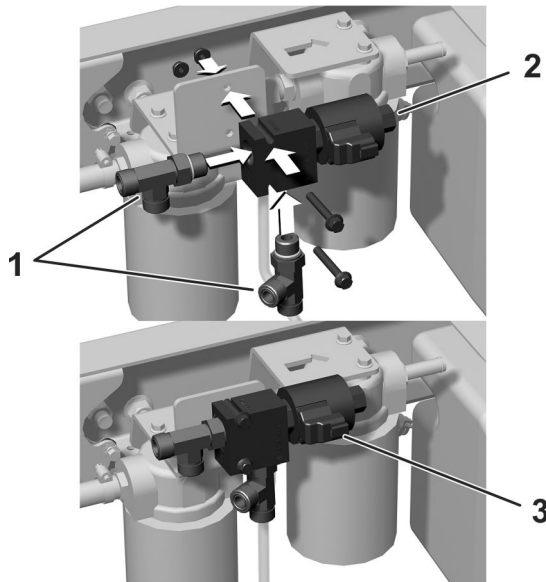

Figure 12
1. Loosely install the 2 T-fittings onto the valve (Figure 12).
2. Mount the valve to the frame bracket with 2 flange-head screws (1/4 x 1-7/8 inches) as shown in Figure 12.
3. Install the electrical connector to the connection on the valve (Figure 12).